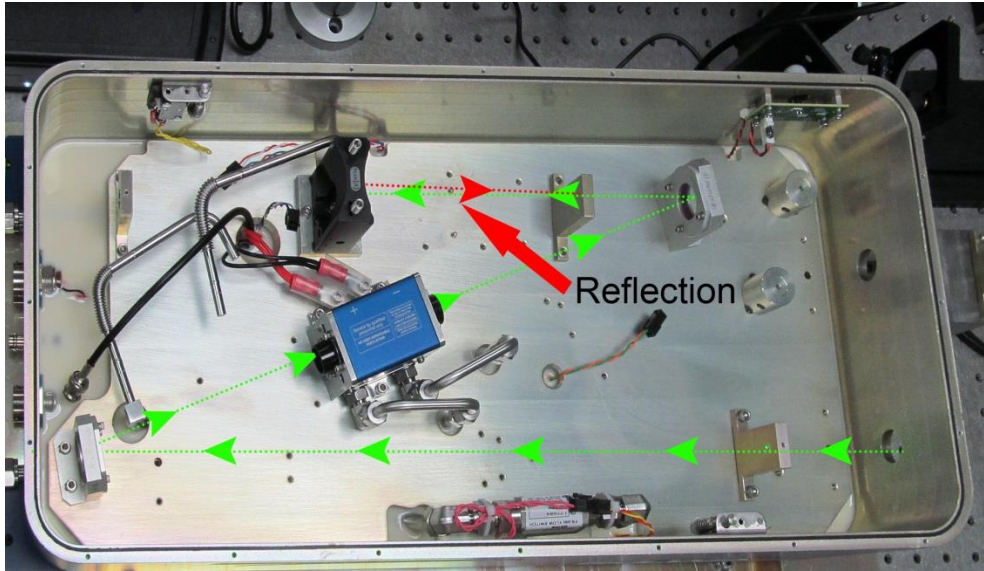

Figure 2-11: Pinhole Alignment with Pinless Aperture
10. See **Figure 2-11**, above. Place the pinless alignment aperture in the beam path between the Output Coupler and the HM. Center the alignment aperture with the HeNe so that the HeNe passes through the pinhole. Adjust the HM reflection back onto the pinless alignment aperture.